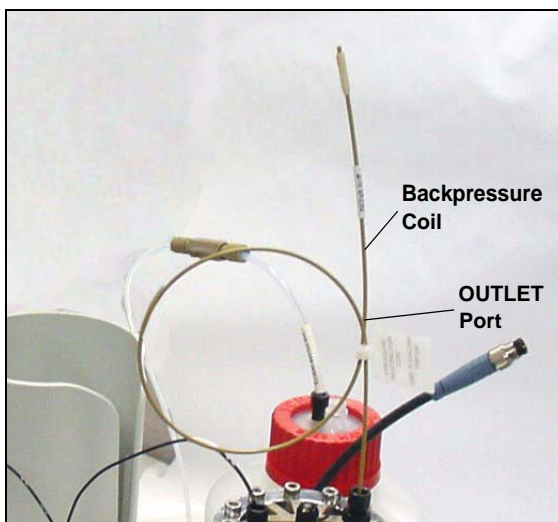

Figure 5-37. EluGen Cartridge Outlet Connection for Conditioning the Cartridge
- Connect one end of this coil to the EluGen cartridge **OUTLET** port (see Figure 5-37). Leave the other end of the coil unconnected.